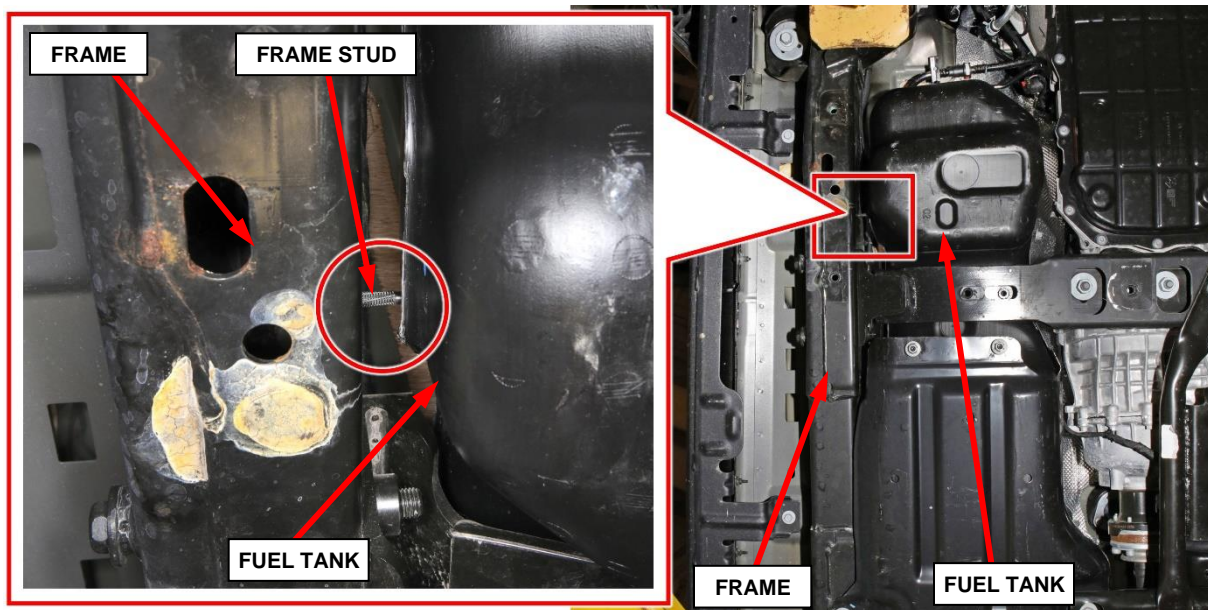

Figure 5 – Frame Stud Location – Inspect for Frame Stud
5. Visually look for a stud on the frame in the location shown in (Figure 5).